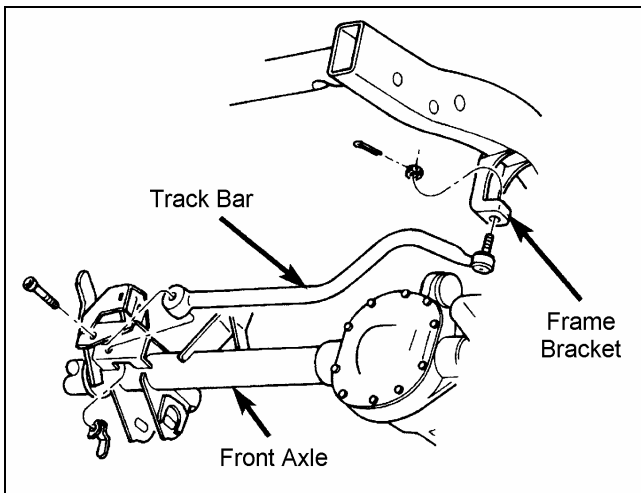

Figure 2
3) ☐ Remove the cotter pin and nut from the ball stud end of the track bar at the frame rail bracket. Separate the ball stud from the bracket with the recommended puller tool. See figure 2.